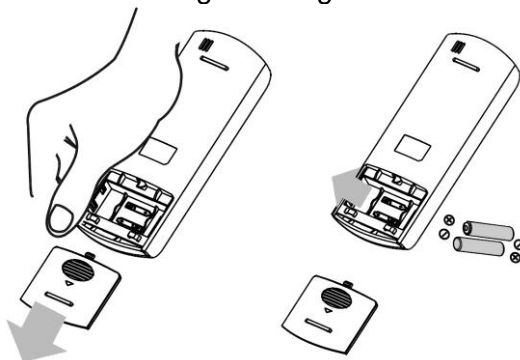

Fig. 18
1. To use the remote control, slide off the battery compartment cover on the reverse of the remote control (fig.18).